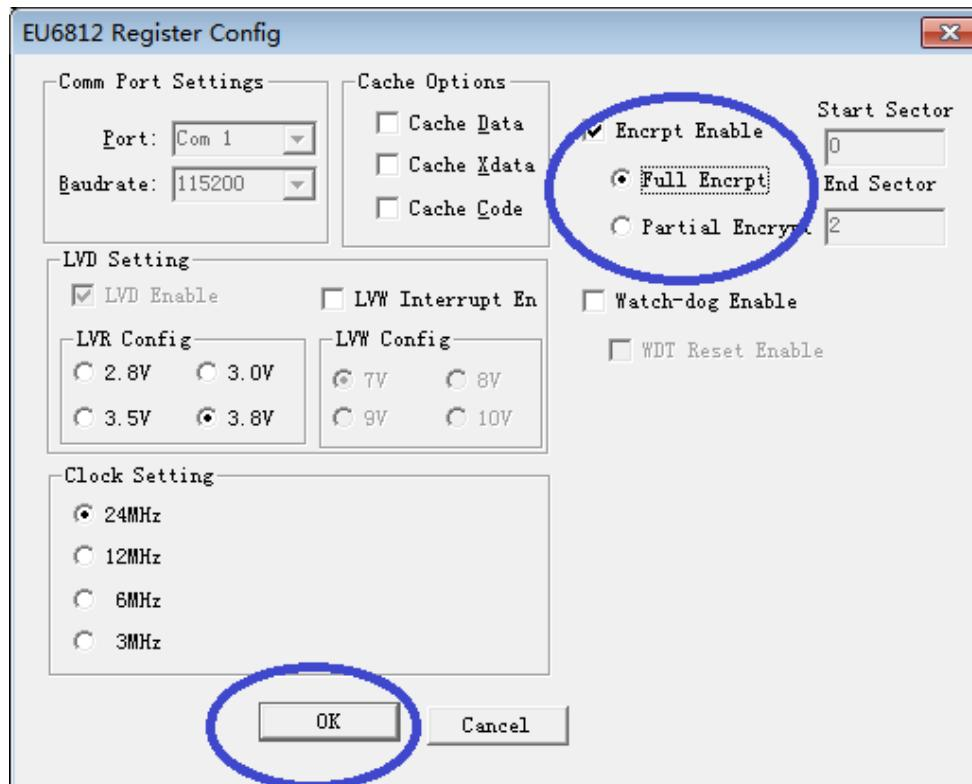
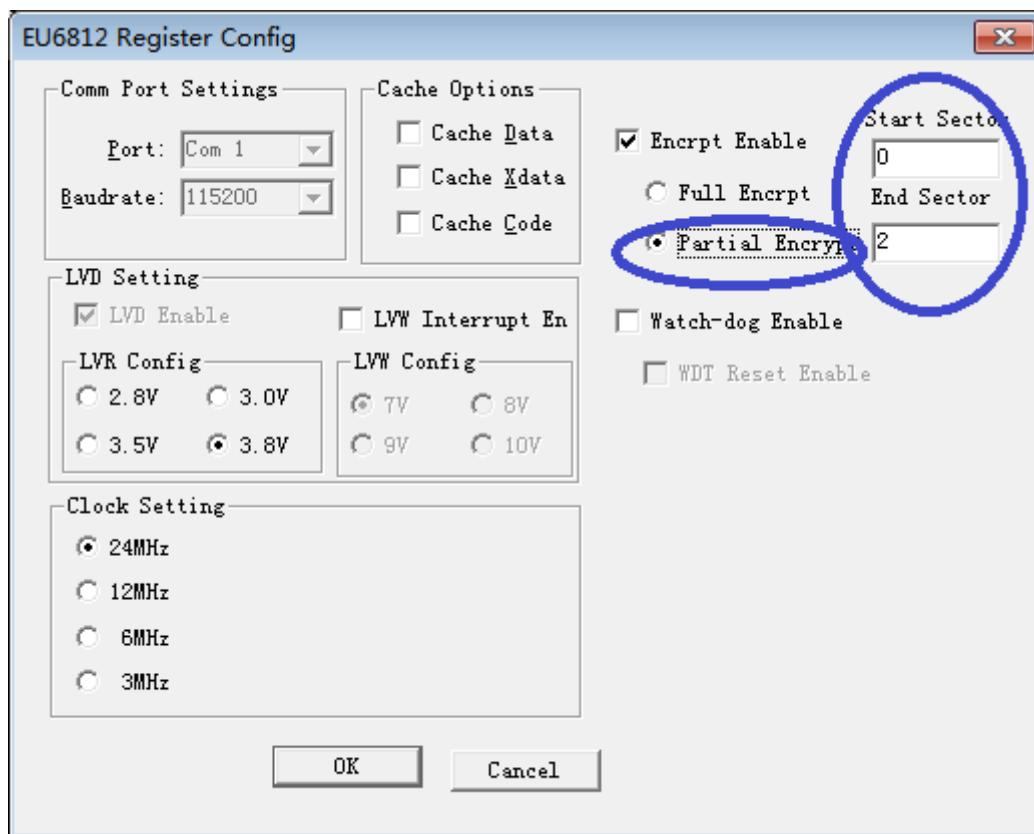

Figure 30-8 Full Code Protection Mode
Figure 30-9 Partial Code Protection Mode
2. Select the options as shown in Figure 30-8, and click OK. Then compile the project and download it. Get the BIN file and program it to Flash.
The chip support full code protection mode and partial code protection mode. After Full Encrypt is selected as shown in Figure 30-8, all codes in Flash are protected. After Partial Encrypt is selected as shown in Figure 30-9, the codes from sector 0 to END SECTOR are protected. The last sector is always protected in any case.